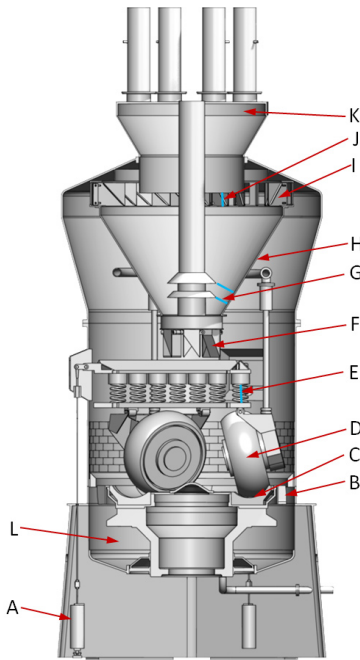

Figure 3
1. Measure and record internal clearances, tolerances and spring preloads. Review the checklist and graphic in Figure 3 (sometimes called “Blueprinting the Mills”).